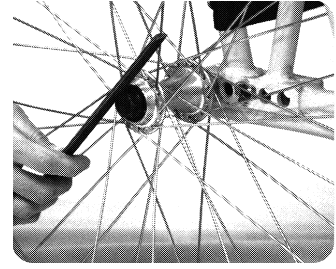

Figure 3.42
Inspect your RoughRider for loose nuts and bolts. If loose, tighten them with a wrench (Figure 3.42). The center pivot bolt of the X-brace should **not** be tight but the locknut used to keep the bolt from falling out should be very secure and hard to turn. You should be able to hold one caster wheel down and lift the other 2 cm (3/4 in.) above the ground with little effort.
(Figure 3.42)
**Rounded bolt head or nut?** File two opposite sides of the bolt head or nut until they are flat enough to get a good grip with a wrench (Figure 3.42). If the bolt or nut will still not turn then the nut may be rusty.